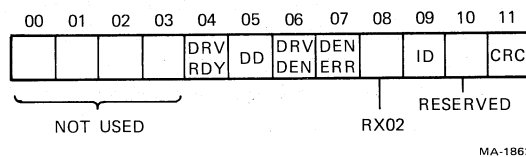

Figure 4-10 RX2ES Format (RX28)
4.1.3.7 RX28 – RX Error and Status (Figure 4-10) – The RX2ES contains the current error and status conditions of the selected drive. This read-only register can be accessed by the read status function (101). The RX2ES is also available in the interface register upon completion of any function. The RX2ES is accessed by the XDR instruction. The meaning of the error bits is given below.